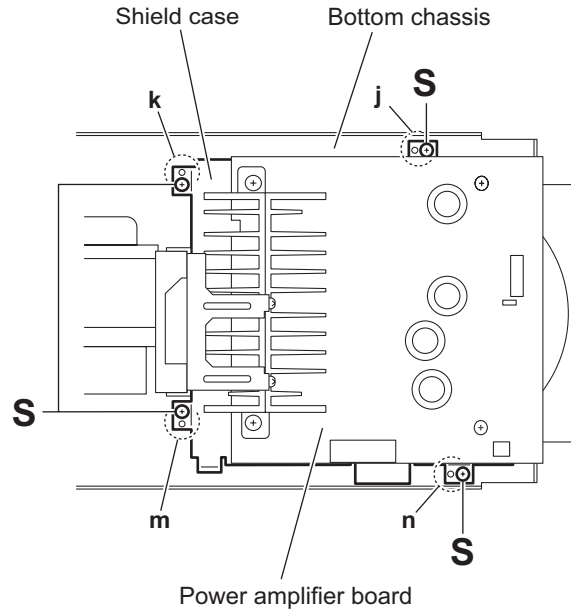

Fig.22
3.1.14 Removing the DVD mechanism assembly (See Figs.22 and 23)
- (1) From the top side of the main body, remove the four screws **S** attaching the shield case to the bottom chassis. (See Fig.22.)
When attaching the shield case on the bottom chassis, align the projections (**j**, **k**, **m**, **n**) of the bottom chassis in the holes of the shield case. (See Fig.22.)